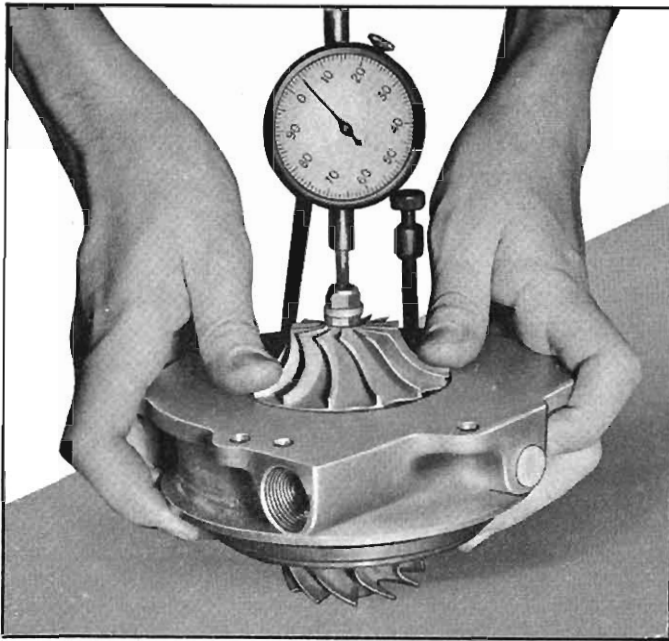

Fig. 9-33—Gauging Turbine Shaft End Play
- so that indicator point is resting on the impeller nut (fig. 9-33).